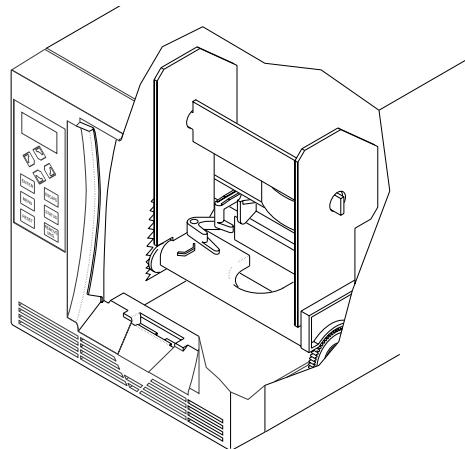

Figure 7-6 Proper position of shipping braces
10. Insert the free end of the cross-brace into the remaining side support. The shipping braces should be positioned as shown in Figure 7-6.